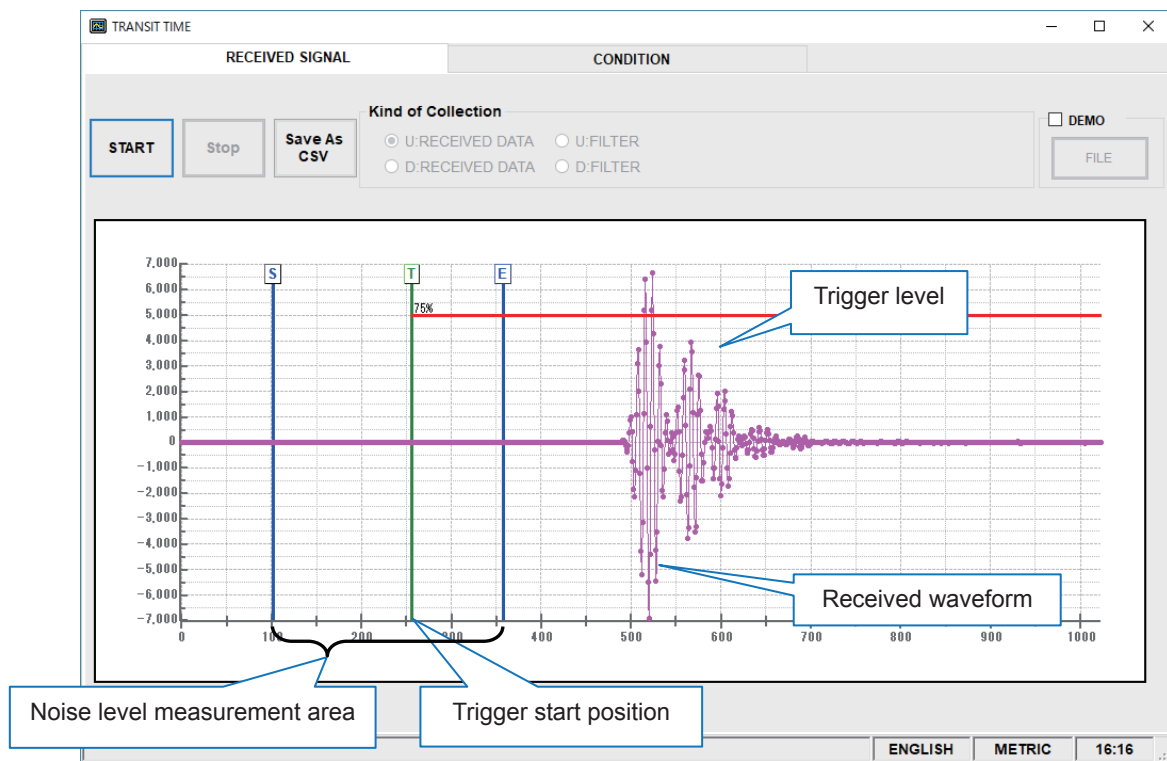

Fig. 8-20 < Detailed information screen >
* The received waveform in Fig. 8-20 is a filter waveform display example.